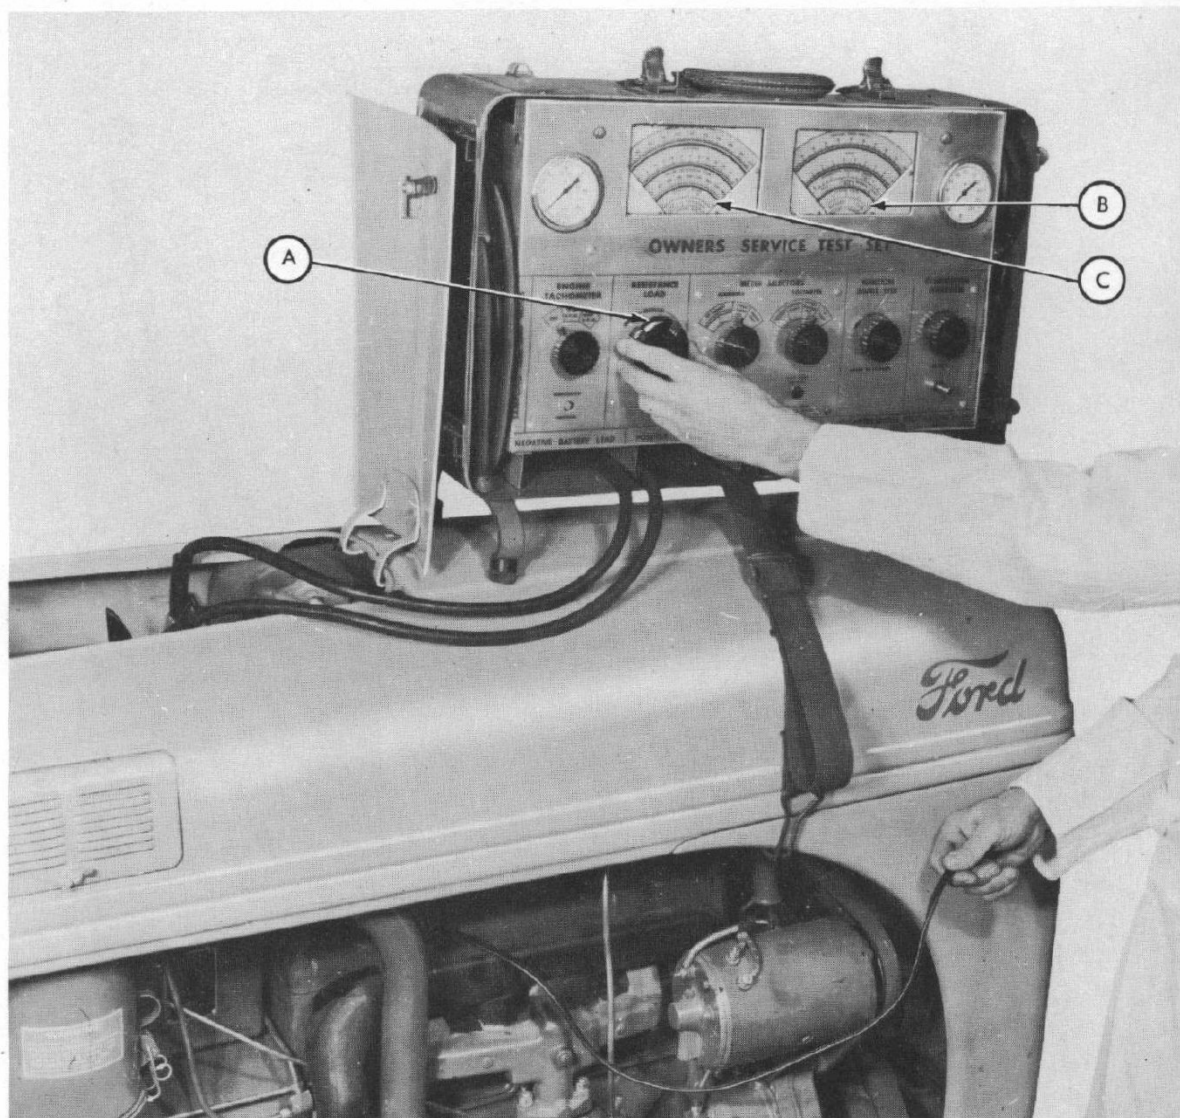

Fig. 3
Step 4—Turn the Resistance Load Knob (A-Figure 3) to the right until the pointer on the Starter Volts scale (B-Figure 3) indicates the same voltage noted while starter was turning the engine.
Step 5—Read the Starter Amps scale (C-Figure 3). The pointer will indicate the starter current required to crank the engine.